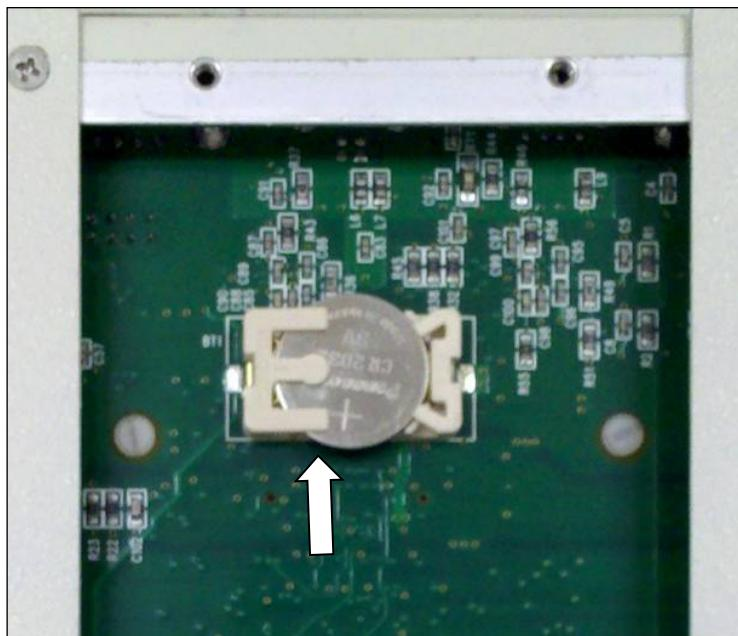

Figure 15-8
- b. Slide the battery into the battery holder under the three prongs as shown in Figure 15-8.